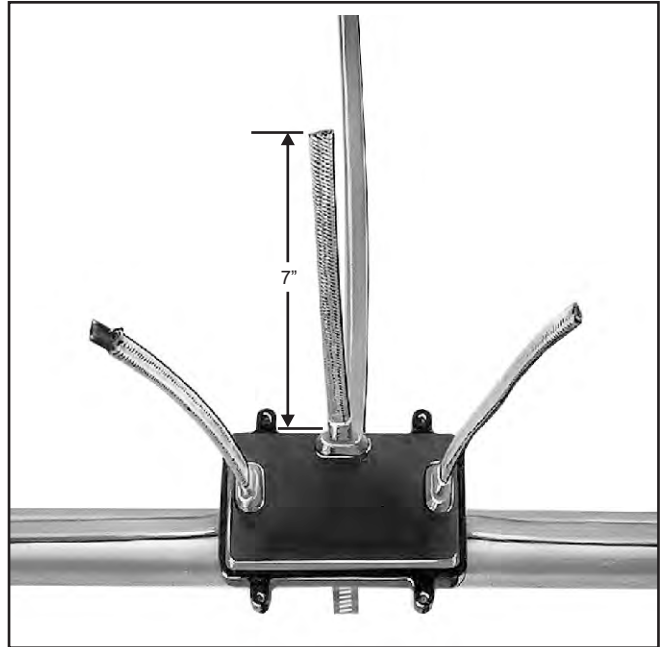

Figure 5
Score the outer insulation seven (7) inches from the end of the cable. Remove the jacket to expose the metal braid. See Figure 5. **WARNING: Do not damage the braid or the base cable insulation.**